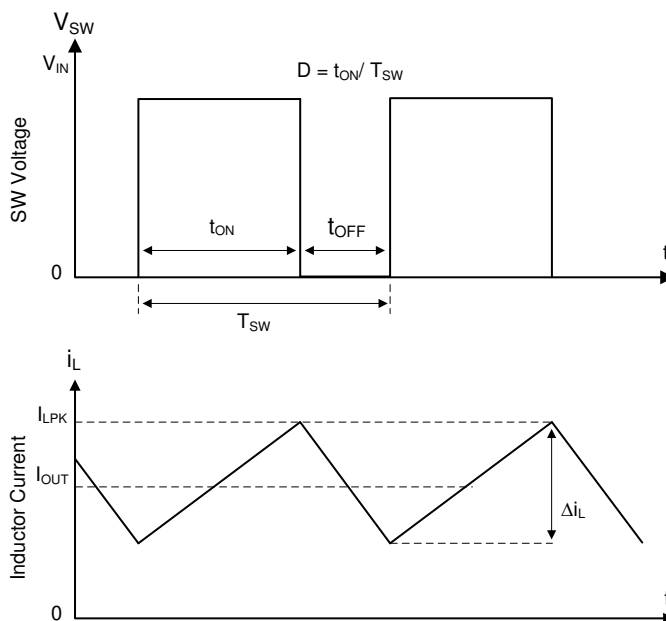

Figure 6-1. SW Node and Inductor Current Waveforms in Continuous Conduction Mode (CCM)
The following operation description of the TPS543x21 refers to the functional block diagram and to the waveforms in Figure 6-1. The TPS543x21 is a synchronous buck converter with integrated high-side (HS) and low-side (LS) MOSFETs (synchronous rectifier). The TPS543x21 supplies a regulated output voltage by turning on the HS and LS NMOS switches with controlled duty cycle. During high-side switch on time, the SW pin voltage swings up to approximately V_{IN} , and the inductor current, i_L , increases with linear slope $(V_{IN} - V_{OUT}) / L$. When the HS switch is turned off by the control logic, the LS switch is turned on after an anti-shoot-through dead time. Inductor current discharges through the low-side switch with a slope of $-V_{OUT} / L$. The control parameter of a buck converter is defined as Duty Cycle $D = t_{ON} / t_{SW}$, where t_{ON} is the high-side switch on time and t_{SW} is the switching period. The converter control loop maintains a constant output voltage by adjusting the duty cycle D . In an ideal buck converter where losses are ignored, D is proportional to the output voltage and inversely proportional to the input voltage: $D = V_{OUT} / V_{IN}$.